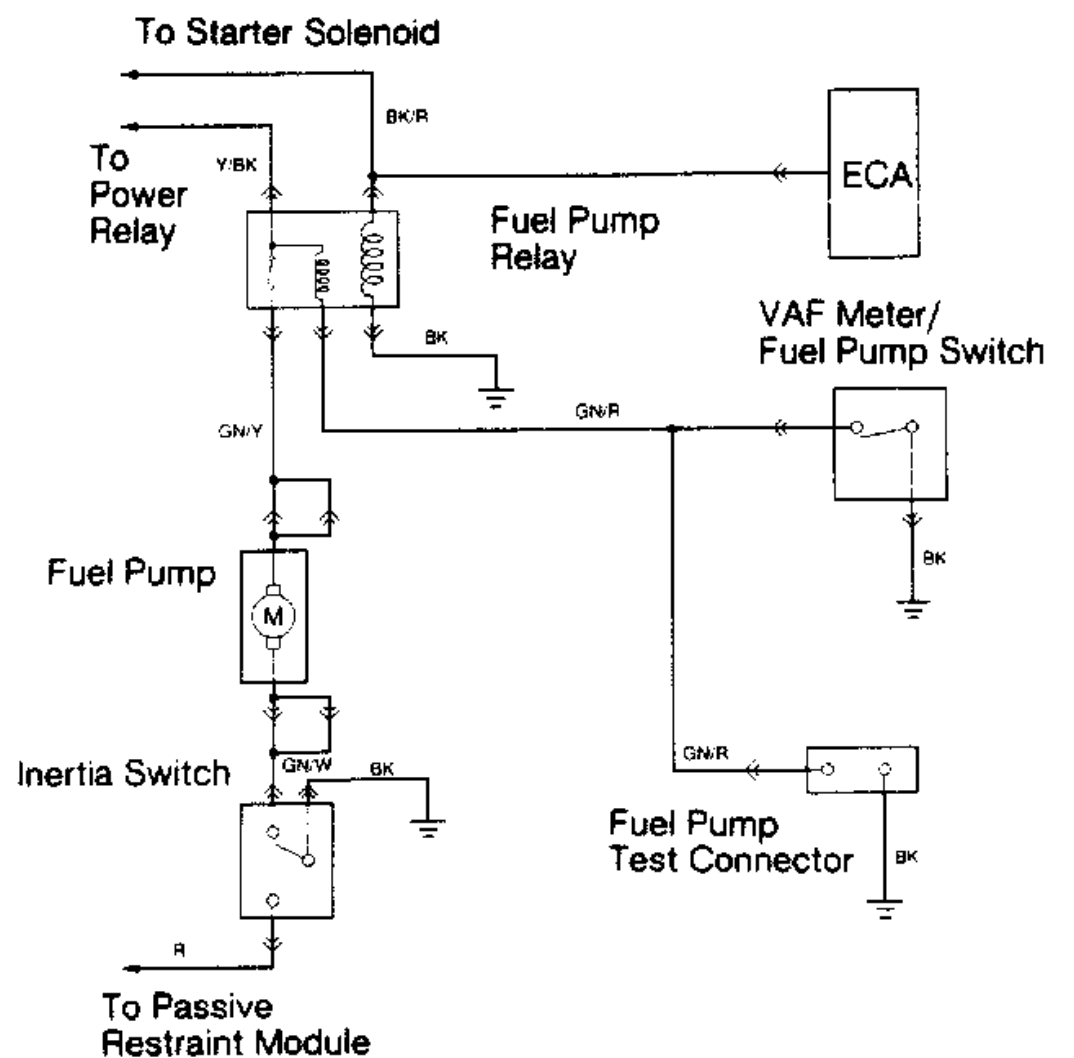
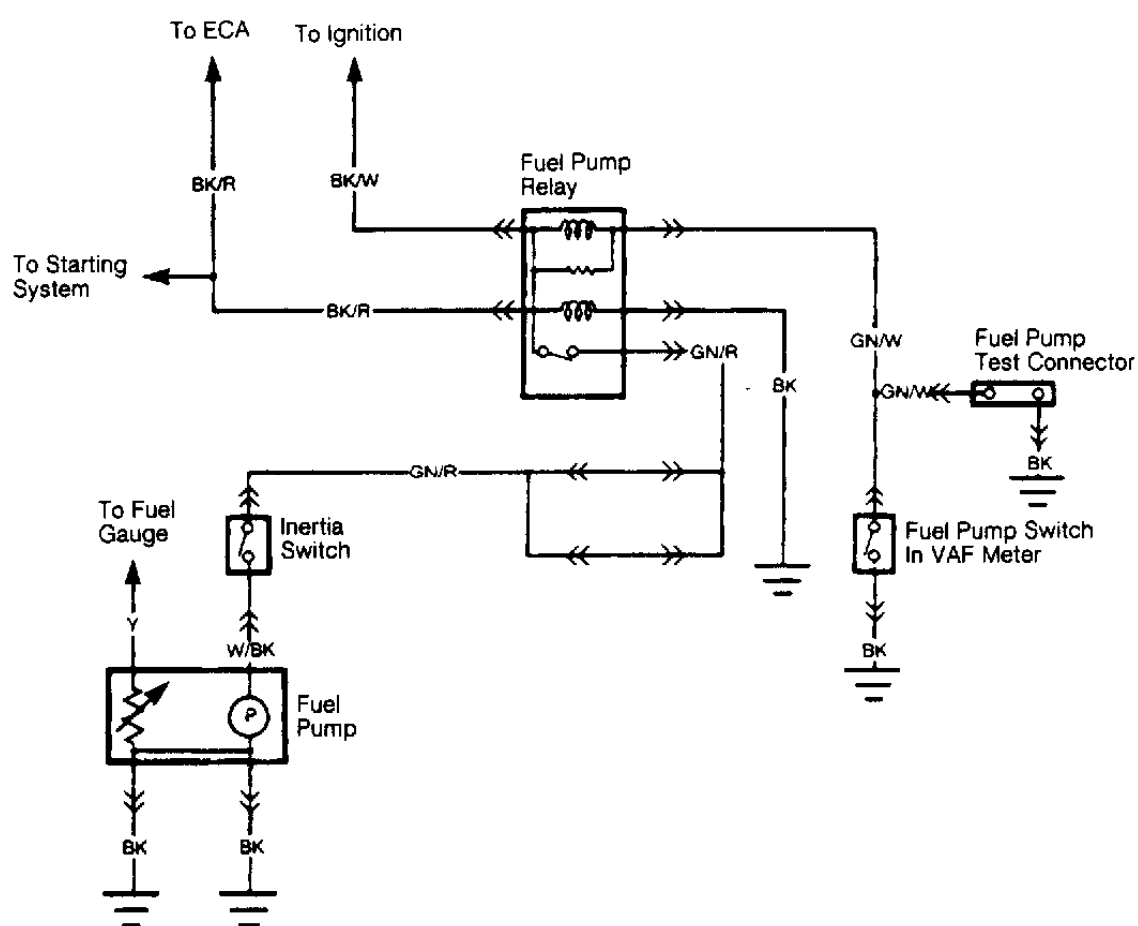

Fig. 1: Festiva Fuel System Electrical Schematic
Fig. 2: Capri Fuel System Electrical Schematic
1. Turn ignition on. Connect jumper wire between fuel pump test connector terminals. See Fig. 1 or Fig. 2 . Turn ignition on to activate fuel pump.